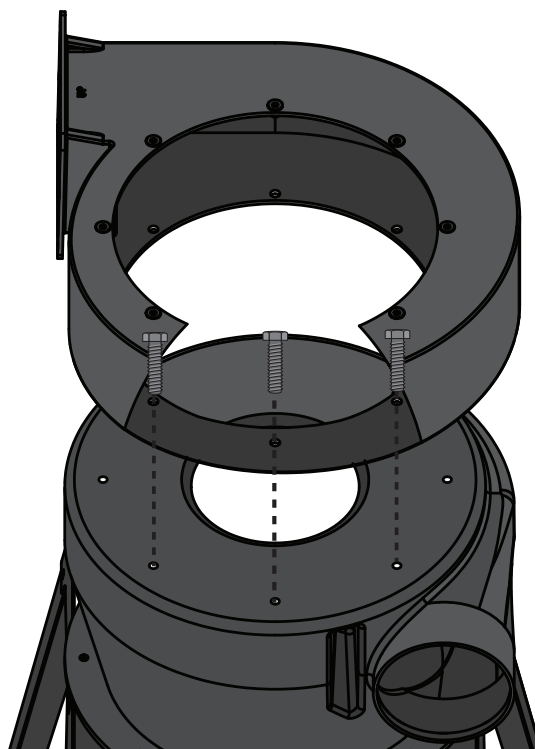

FIG. 6
Lift the Fan Housing (B) onto the Barrel (C), making sure it is oriented so that the molded "UP" text is visible. Align the housing's holes with the holes in the barrel and keep in mind the direction you want your outlet to face. [FIG 6].